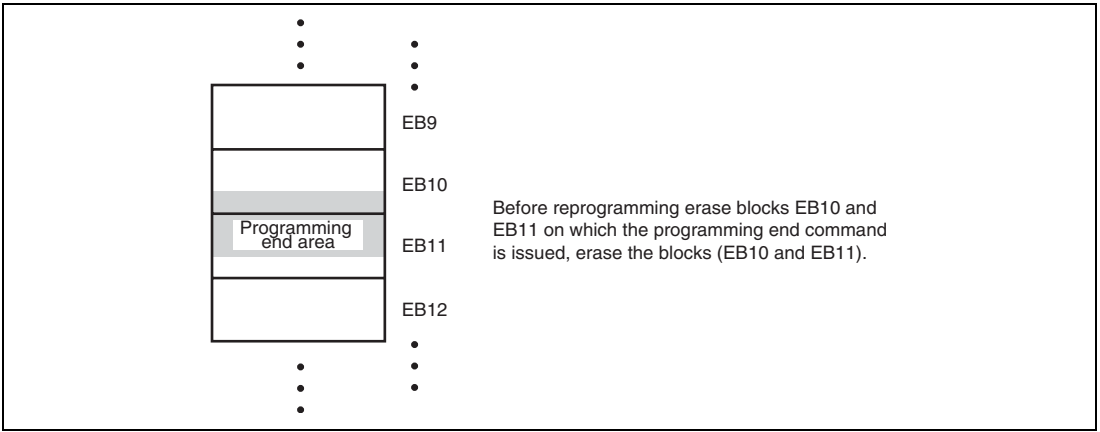

Figure 18.13 Example of Erase Block Including Programmed Area
- When reprogramming an erase block including an area on which the programming end processing is executed, erase the erase block. An example of the erase block is shown in figure 18.13.